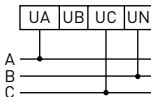

Fig. 2 - Direct voltmeter connection for  $U \leq 500V$  (three conductors,  $nEt=n.3.3$ )
Voltmeters are connected to the circuit in parallel (Figures 2 - 5).
- Connect the device according to the diagrams in Figures 2 - 5.